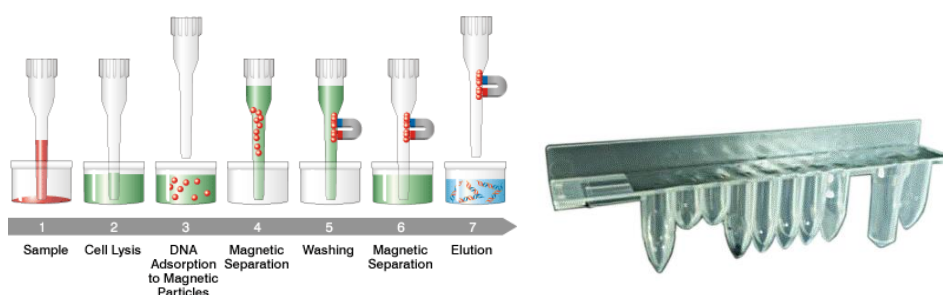

Figure 1.3: Nucleic acid extraction principle and ELITE InGenius SP 200 extraction cassette
- The reagent set has been optimized for the isolation of nucleic acids from 200 μ L samples (Figure 1.3: ELITE InGenius – SP200 Extraction cassette and extraction principle).